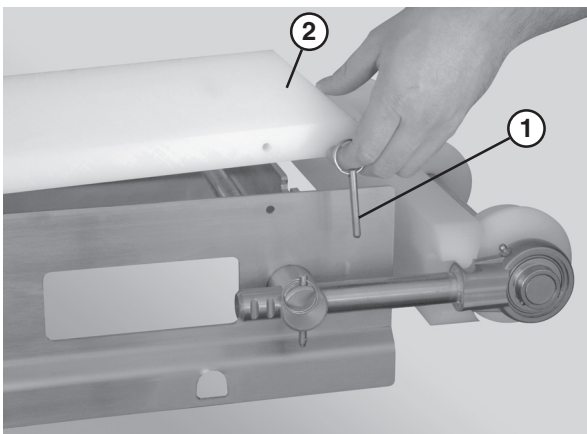

Figure 52
1. Remove the guides, if applicable, by removing the pull pins (**Figure 52, item 1**) that connect the guide (**Figure 52, item 2**) to the frame.